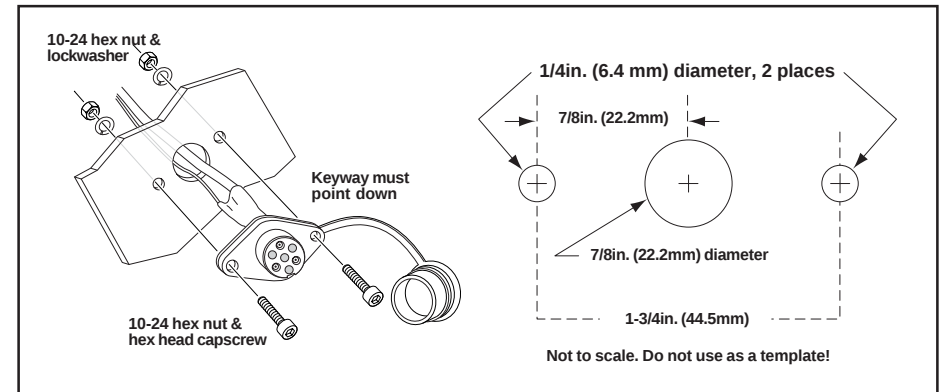

Figure 9: Remote socket installation.
- After determining the mounting location for the remote socket, drill three holes and install. (see figure 9)